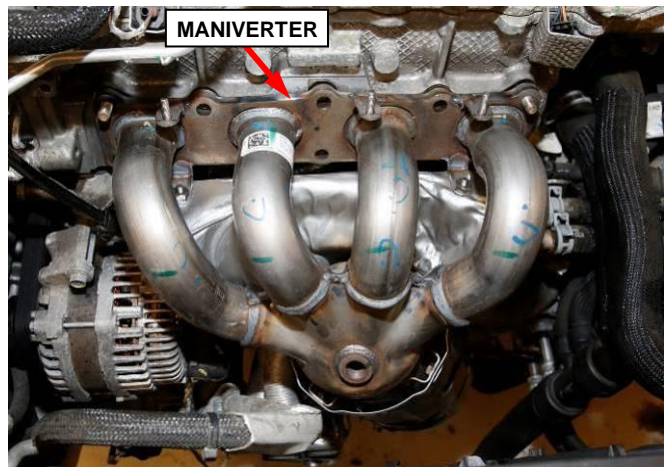

Figure 22 – Install New Gasket
33. Install the **NEW** maniverter through the top of the engine compartment. Set the maniverter into position (Figure 22).